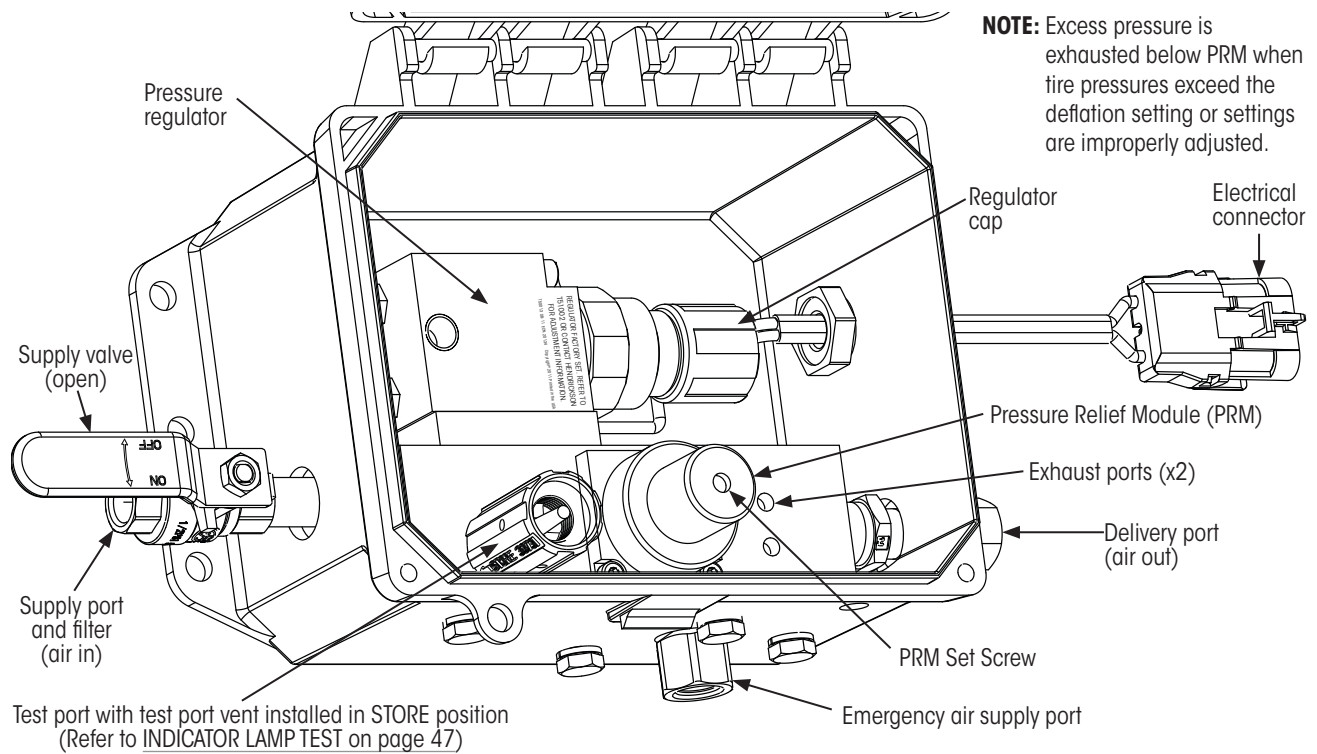
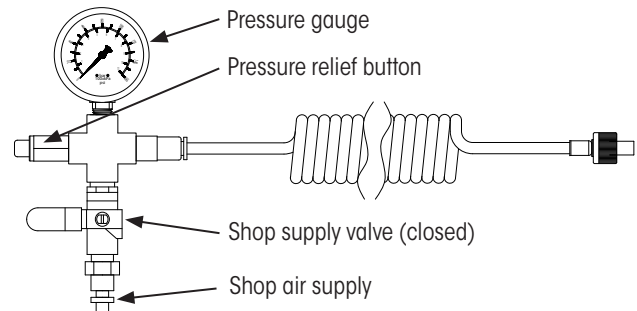

Figure 55: Setting TIREMAAX® PRO Inflation Pressure and Deflation Pressure
Figure 56: TIREMAAX PRO target gauge VS-32331
NOTE: The TIREMAAX PRO target gauge (Figure 56 on page 51) can not be used in place of the CP target gauge. Fittings are not compatible.
- TIREMAAX PRO target gauge (Figure 56) or equivalent.
IMPORTANT: The TIREMAAX PRO target gauge (Figure 56) is required for this procedure. The PRO regulator does not self exhaust which could result in false readings.
4. **Open** controller cover, **remove** test port vent, if included, and **connect** target gauge (Figure 56) to the test port (Figure 55).
5. **Charge** tank by connecting clean, dry **shop air supply** to emergency air supply and target gauge. **Once charged, disconnect** from emergency brake gladhand (Figure 56).
This adjustment is set at the controller regulator (Figure 55 on page 51).
- ii. **Use** pressure relief button on target gauge (Figure 56) to **lower** Inflation Pressure at **least 5 psi below the desired Inflation Pressure** setting. **Close** valve.
This setting is performed at the controller's PRM (Figure 55 on page 51). For proper operation, Deflation Pressure must be set to 10 psi above Inflation Pressure.
2. **Close** controller supply valve at the controller (Figure 55 on page 51).
3. **Connect** clean, dry shop air supply to target gauge using the $\frac{1}{4}$ inch quick connect (Figure 56 on page 51). An air supply **at least** 15 psi above the desired cold Inflation Pressure is required.
8. **If adjustment is needed, use** $\frac{1}{8}$ inch Allen wrench to **adjust** PRM set screw (Figure 55). (A quarter turn is approximately 5 psi.)